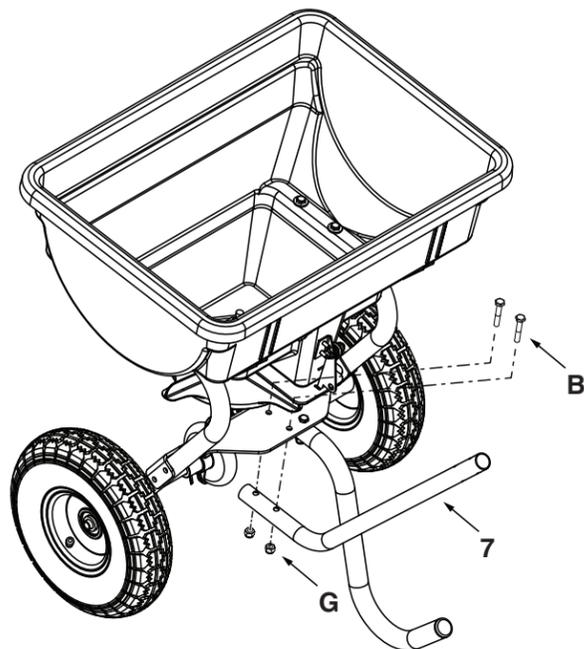

Figure 12
STEP 12: (SEE FIGURE 12)
- Attach the lower handle tube (7) to the frame using two 1/4" x 1-1/2" hex bolts (B) and 1/4" nylock nuts (G). Tighten hardware.